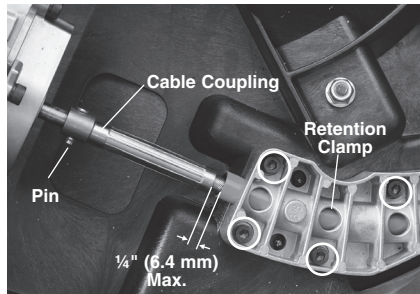

Figure 2 – Installing Cable Clamp
3. Remove the cable retention clamp fasteners and retention clamp (Figure 2).
6. Reverse process to assemble. Ensure cable sheath covers cable. No more than 1/4" (6.4 mm) of cable should be exposed. (see Figure 2). Securely tighten all fasteners.